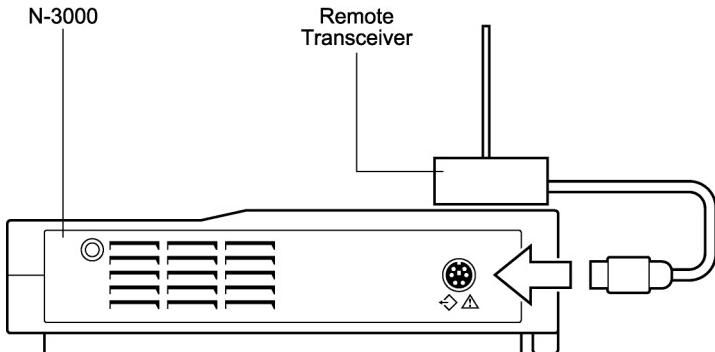

Figure 31: Bedside Station Radio-Link Connection
2. Make sure the N-3000 is off and then connect the cable attached to the remote transceiver to the serial port connector on the rear panel of the N-3000 as shown in Figure 31. The N-3000 must be configured for 3.3 Vdc power on pin 6 of the serial port connector.